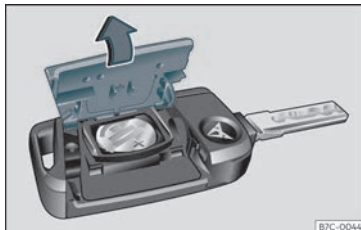

Fig. 72 Vehicle key: opening the battery compartment cover.
- Remove the cover from the back of the vehicle key» Fig. 72 in the direction of the arrow » ⓘ.
- Fit the cover as shown» Fig. 72 , pressing it onto the vehicle key casing in the opposite direction to that shown by the arrow until it clicks into place.